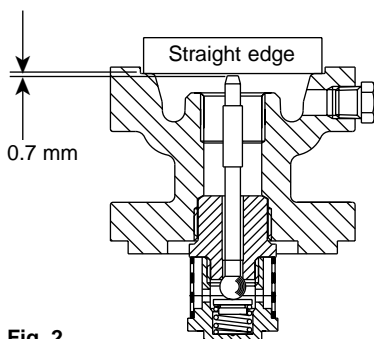

Fig. 2
2. Release lock-nut (2) and turn adjustment screw (1) anticlockwise until spring is slack.
3. Slide out 'C' washer (3) from underneath lock-nut and remove cover (4).
4. Remove spring (6) and top spring plate (5).
5. Undo the 4 x M10 nuts (9) and remove spring housing (8), bottom spring plate (7) and diaphragms (10). **For diaphragm replacement only go to Step 17.**
7. Undo the nuts (11) and remove the pilot valve chamber (30) making sure that the main valve spring (20) is still positioned correctly on top of the main valve head (21). **For pilot valve chamber replacement only, go to Step 14.**
8. Unscrew pilot valve seat assembly (14) which includes the integral strainer screen (14A) by using a 27 mm A/F socket and also remove plunger (13).
9. Unscrew bellows seal assembly (12) using a 24 mm A/F socket. If necessary this bellows seal assembly can be replaced.
10. With the bellows seal still removed screw in new pilot valve assembly (14) and tighten down to a torque of 115 N m. For the 'G' version a bonded seal is used between the pilot valve assembly and the block.
11. Insert plunger (13) in from the top and check that there is a gap of 0.7 mm between the top of the plunger and a straight edge placed across the diaphragm location recess (see Figure 2. Standard pilot valve illustrated).
Note: Because of production tolerances the plunger is supplied slightly longer than is always required and it will generally be necessary to grind or machine material off the top end to give the correct length. After machining make sure the sharp edges are removed from the top of the plunger as these could damage the bellows. The 0.7 mm gap (see Figure 2) ensures that with the bellows seal fitted there is just a slight gap between it and the diaphragm in its neutral position).